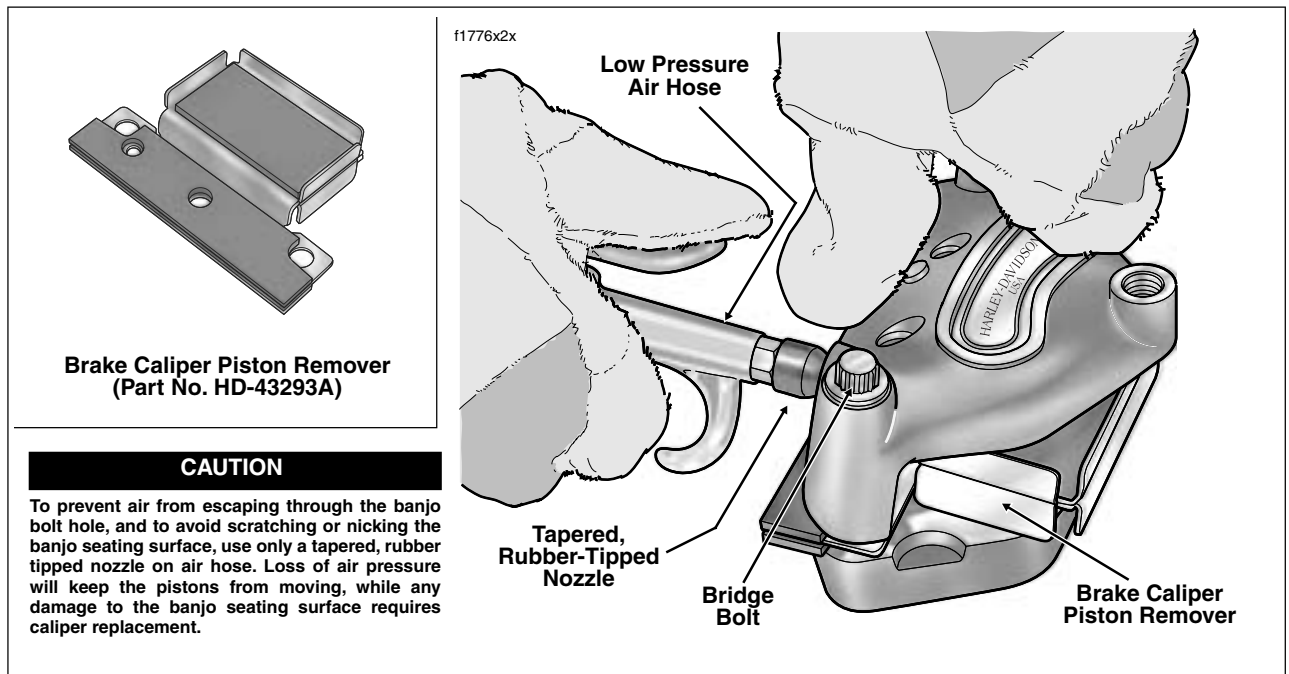

Figure 2-58. Direct Compressed Air Into Banjo Bolt Hole to Force Pistons From Bores
- a. Obtain BRAKE CALIPER PISTON REMOVER (Part No. HD-43293A). See inset of Figure 2-58.
- e. Using a tapered, rubber-tipped nozzle on the air hose (to prevent both loss of air pressure and damage to the banjo seating surface), apply low pressure compressed air into the banjo bolt hole to force pistons into contact with cushion of tool. See Figure 2-58.